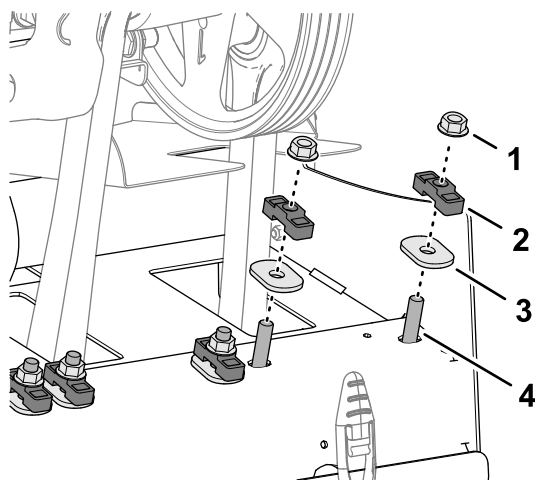

Figure 132
1. Remove the 2 flange locknuts that secure the roto-link dampener shaft to the rear frame of the machine (Figure 132).